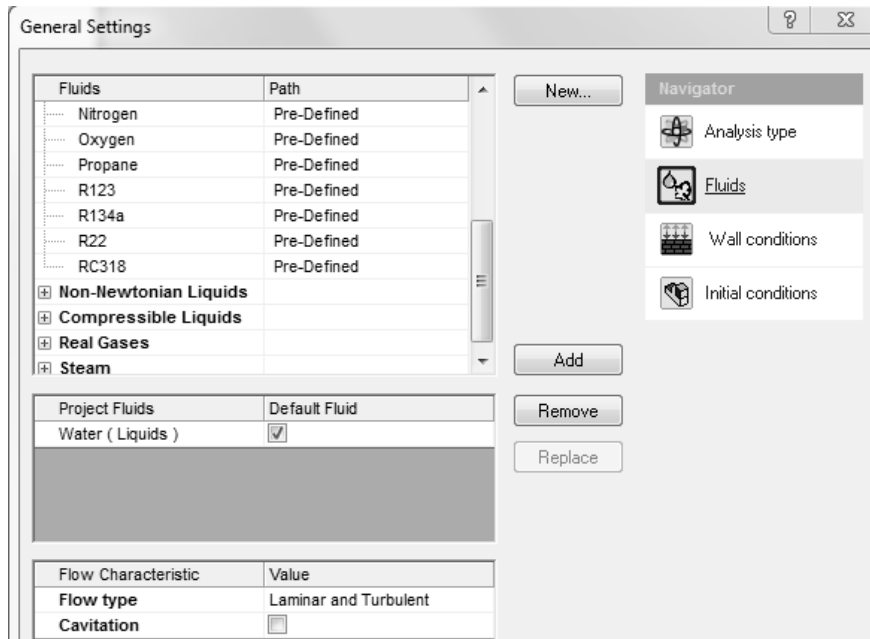

Figure 2.27d) Selection of fluid and flow type
29. In the next step, we will clone the project. Select **Flow Simulation>>Project>>Clone Project...** Create a new project with the name “**Flat Plate Boundary Layer Study Using Water**”. Click on the **OK** button to exit the **Clone Project** window. Follow the directions for **Appearances**. Next, change the fluid to water in order to get higher Reynolds numbers. Start by selecting **Flow Simulation>>General Settings...** from the SolidWorks menu. Click on **Fluids** in the **Navigator** portion and click on the **Remove** button. Select **Water** from the **Liquids** and **Add** it as the **Project Fluid**. Change the **Flow type** to **Laminar and Turbulent**, see figure 2.27d). Click on the **OK** button to close the **General Setting** window.